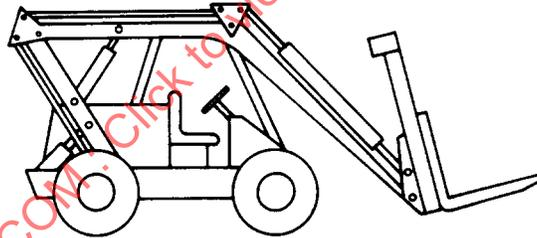

FIGURE 9—
- 4.2.2 Parallelogram Boom with or without Mast (see Figure 9)